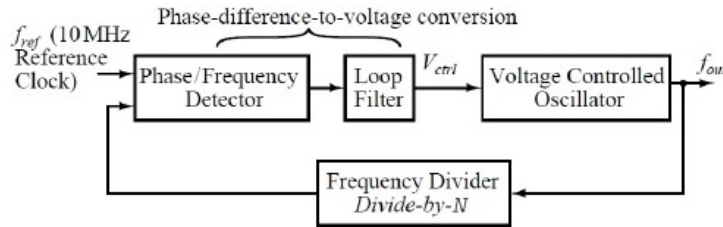

Figure 4: The block diagram of a PLL used as a frequency synthesizer.
- (b) **The Phase Locked Loop (PLL) for Frequency Synthesis:** The on board PLL generates the LO signal for modulation or upconversion of the baseband signals. The input to the PLL is a fixed 10MHz clock (also known as the reference frequency  $f_{ref}$ ) coming from an on-board crystal oscillator. The PLL IC has a voltage controlled oscillator (VCO) followed by a configurable frequency divider of division ratio N; as shown in Fig. 4. The feedback loop in the PLL ensures that the frequency divider output phase (and hence frequency) exactly matches the reference clock phase (and frequency). The phase error is basically determined by the time difference between the rising edges of the reference clock and the frequency divider output, and should be practically zero when the PLL is locked. For a given  $f_{ref}$  and N; the VCO output frequency in the locked PLL is  $f_{out} = N \cdot f_{ref}$  (prove it yourself). The frequency division factor N is always  $>1$ , but it is possible to achieve effectively a non-integer value of N using some tricks (discussion on which is beyond the scope of this material).